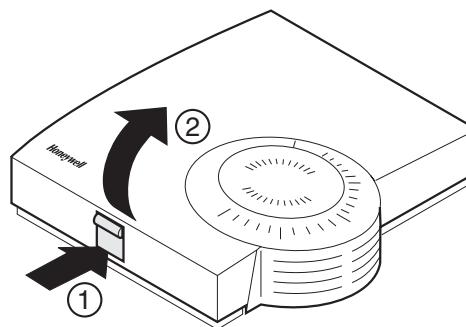

Fig. 9: Removing the housing cover
- ▶ Remove the housing cover of the room unit HCW 80 (see Fig. 9).
- ▶ Remove the housing cover (see Fig. 9, Page 5).
- ▶ Remove the housing cover of the HCW 80 (see Fig. 9, Page 5).